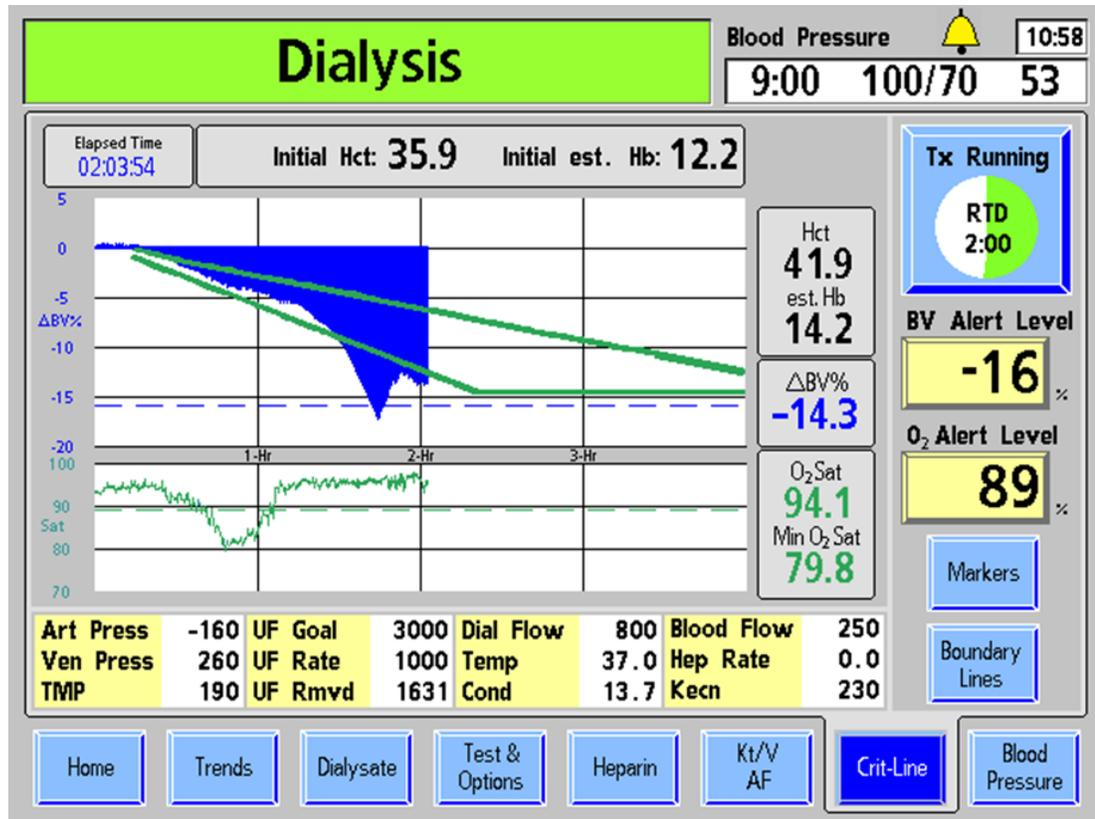

Figure 77 – Crit-Line Screen (Showing BV with Boundary Lines and O₂ Saturation) (Showing functional software version 2.74 or later)
The “Crit-Line” screen can display either Blood Volume (BV) (see Figure 77 on page 157) or Hematocrit (Hct) (see Figure 78 below) on the upper graph depending on the Service Mode setting.
<p>Boundary Lines – If enabled by pressing the Boundary Lines button, these two green lines on the BV graph show where a per hour drop of -3% and -6.5% in relative blood volume would be. The lower line does not go below a -15% drop for the entire treatment. The two lines are displayed at the beginning of treatment, but do not cover the first 15 minutes of treatment (see Figure 77). After four hours of treatment, the boundary lines disappear.</p> <p>When boundary lines are displayed, the blood volume change profile letter (A, B or C) is not shown.</p>
The BV (Blood Volume) graph (Figure 77 on page 157) is displayed as a fill graph. A line is filled from 0 to the Δ BV% value. As the dialysis treatment progresses, fluid is taken out of the blood by the 2008T hemodialysis machine’s ultrafiltration pump. This will result in a greater percentage of the blood being red blood cells and the blood volume fill graph will trend downwards and approach the alert level. The BV alert level is drawn as a blue dotted line across the BV graph.
Oxygen saturation is the default display on the “Crit-Line” screen’s bottom graph. The O₂ Sat (Oxygen Saturation) graph (Figure 77 on page 157) is a line graph drawn from the previous oxygen saturation value. The O₂ Alert Level is drawn as a green dotted line across the Oxygen Saturation graph.